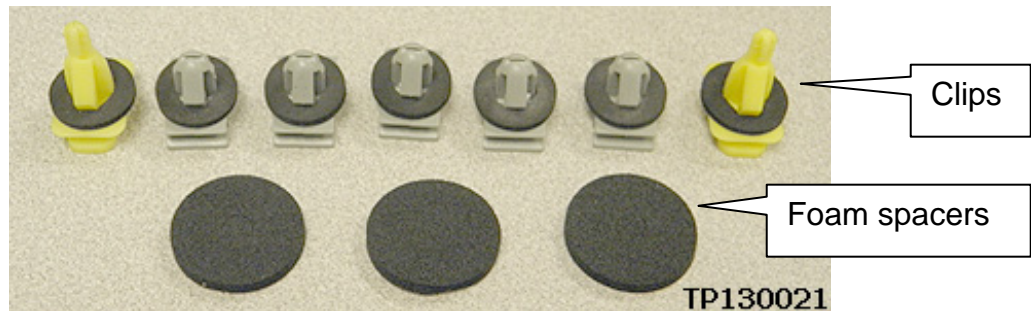

Figure 10
11. Install 3 foam self adhesive spacers to the spoiler as shown in Figure 10.